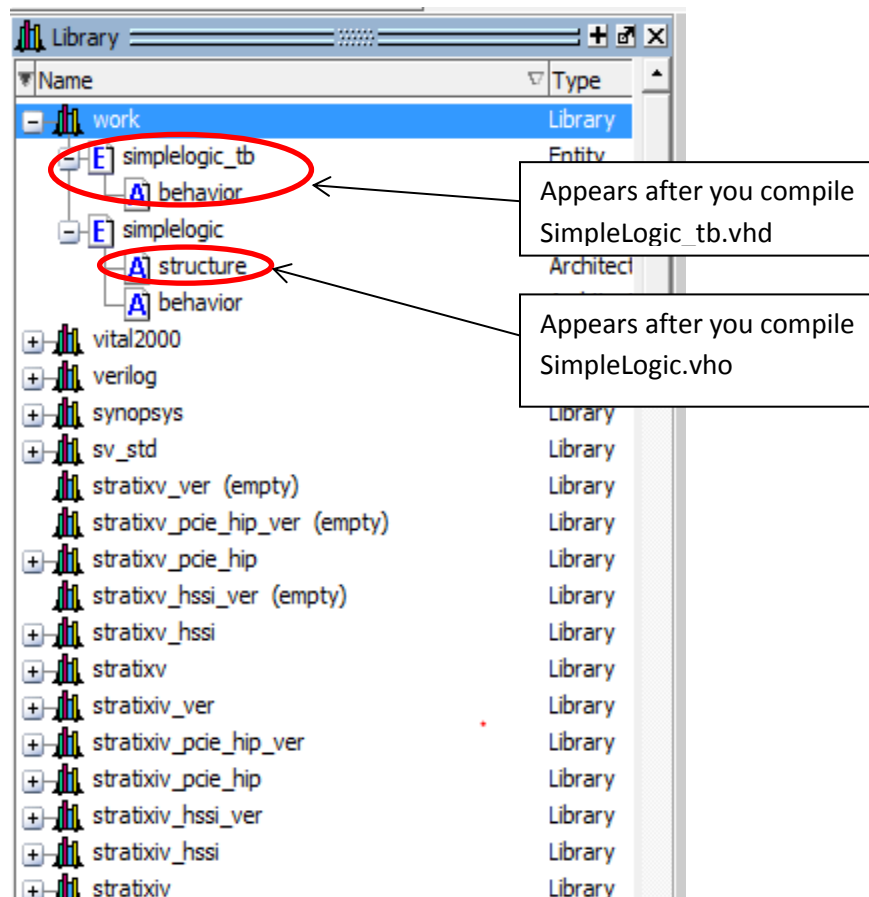

Figure 5
4. Click **Done** and open the library view if it's not already open (by selecting View → Library) and verify the red circled portions as shown in Figure 5 are there.